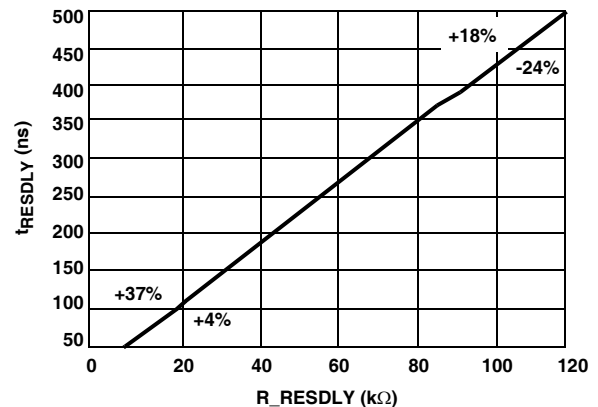

FIGURE 7. R\_RESPLY vs RESPLY
- Figure 7 illustrates the relationship of the value of the resistor ( $R_{RESPLY}$ ) and the resonant delay ( $t_{RESPLY}$ ). The percentages in the figure are the tolerances at the two end points of the curve.